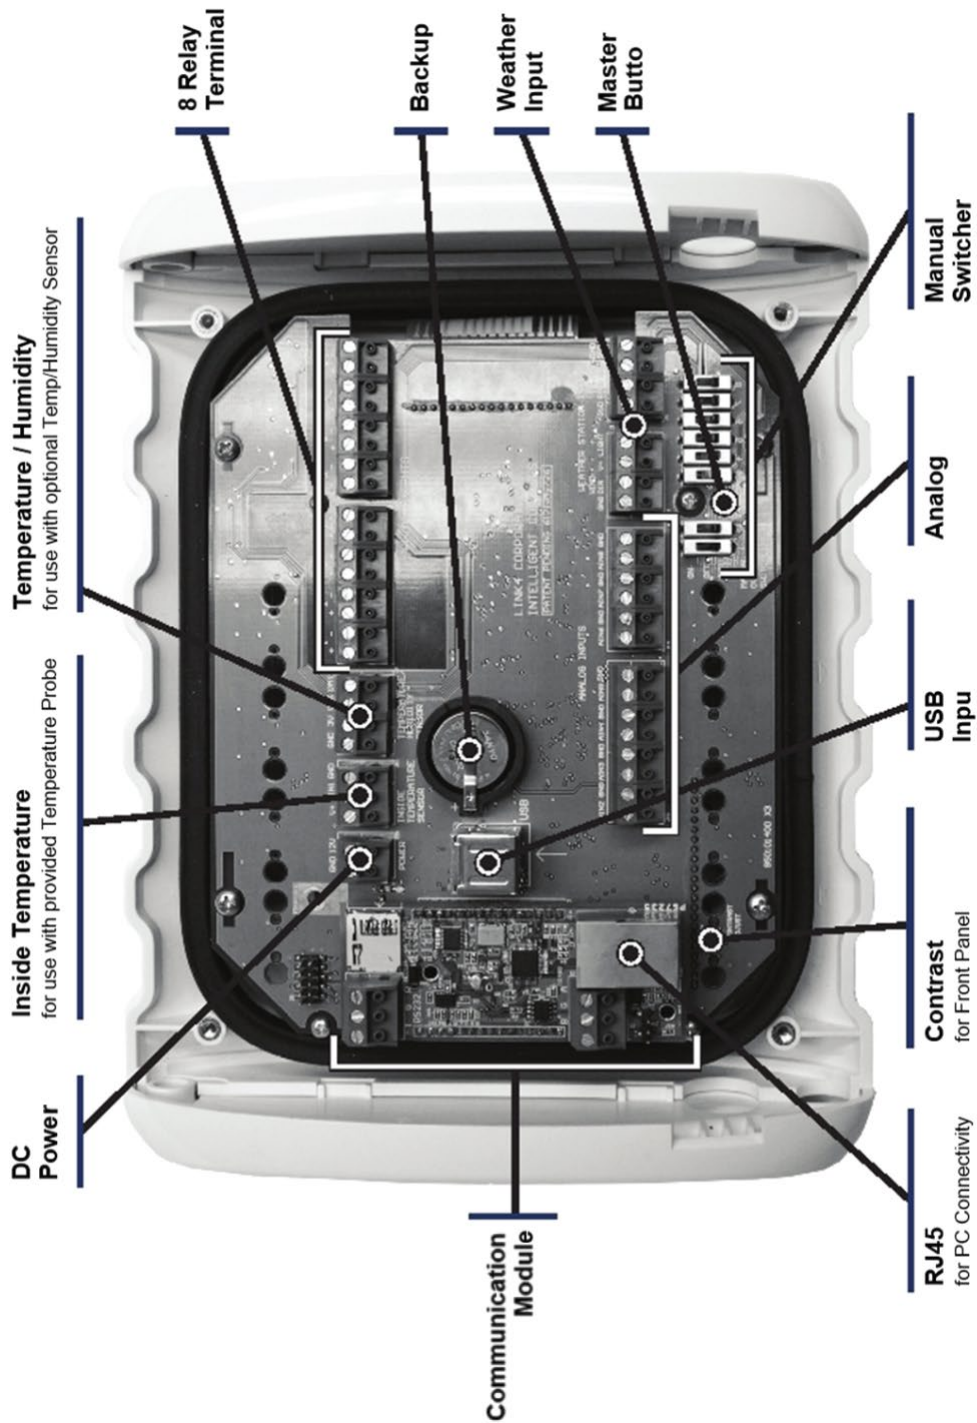

Figure 2.4 Internal Layout of the iGrow 100 Series™ PCB
Figure 2.4 shows how the iGrow 100 Series™ looks on the inside. Take notice of the board and familiarize yourself with the internal layout before beginning the wiring process.
5. Locate the DC Input Power terminal on the PCB. See Figure 2.4 and Figure 3.1.